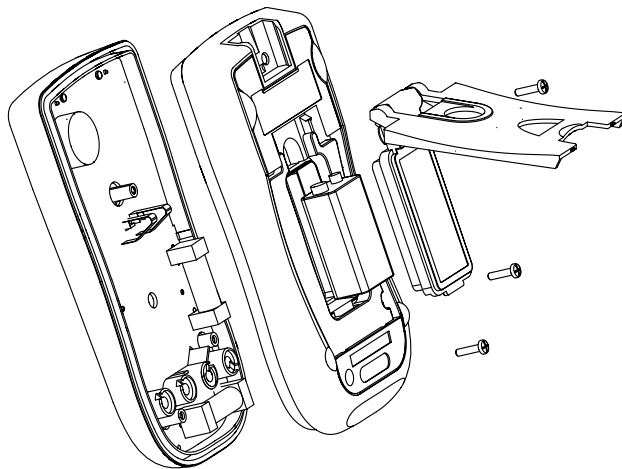

Figure 27
B. Replacing the Fuses (see figure 27)
C. Replacing the Battery (see figure 27)